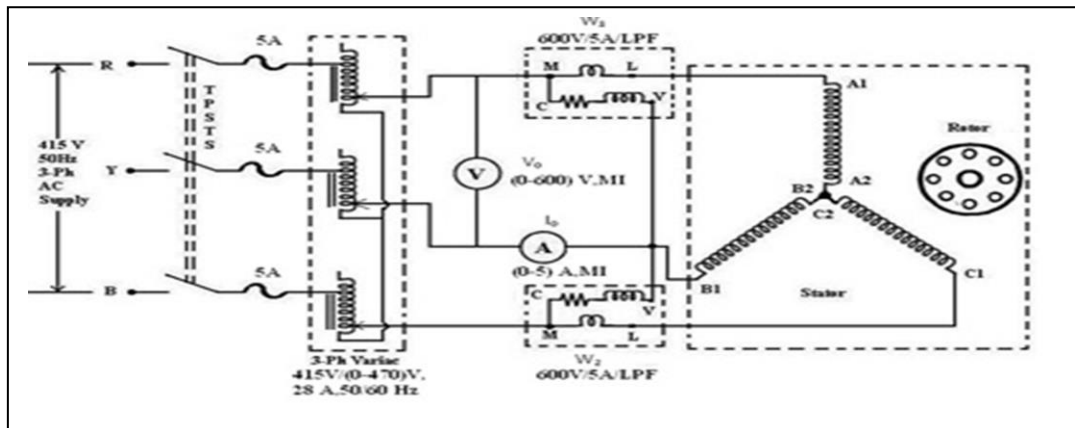

Fig 11.1: Circuit diagram for no-load test
1. Connect the circuit as per fig 11.1.